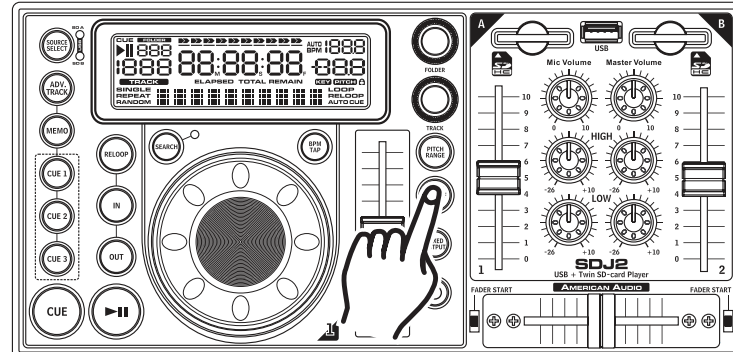

Figure 44
Using the Pitch Slider Percentage Selector (10): You may choose a pitch operating range at any time. To change the operating range be sure the pitch function is turned on, see figure 44. The pitch percentage can be changed between +/-4%, +/-8%, and +/-16%. 4% will allow the least amount of pitch manipulation and 16% will allow the most amount of pitch manipulation. To adjust the different values, press the **PITCH PERCENTAGE BUTTON (10)** until your desired percentage is reached.